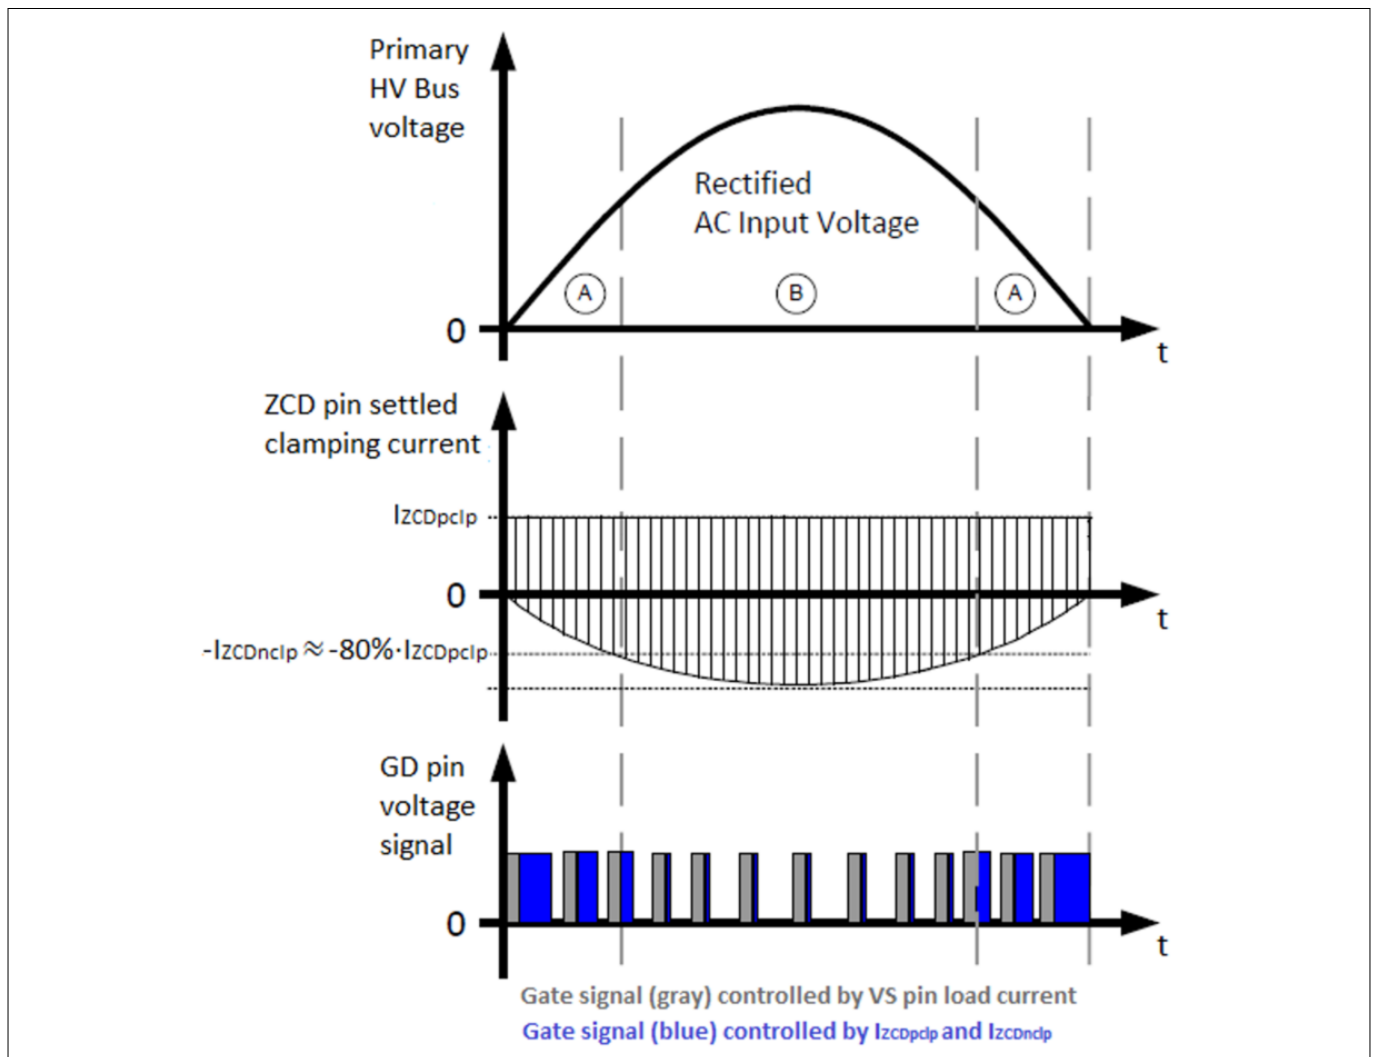

Figure 9 ICL88xx THD correction with on-time extension near AC input voltage zero crossing
As shown in Figure 9 area A, ICL88xx increases the on-time extension near AC input voltage zero crossing, where $I_{ZCDnclp}$ is less than 80% of $I_{ZCDpclp}$.
- the on-time extension effect for THD correction (see Figure 9)